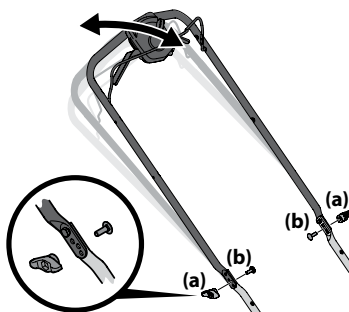

Figure 2-14
1. Remove wing nuts (a) and carriage bolts (b) from handle. See Figure 2-14.
2. Position the handle in one of the three positions that is most comfortable. See Figure 2-14 inset.